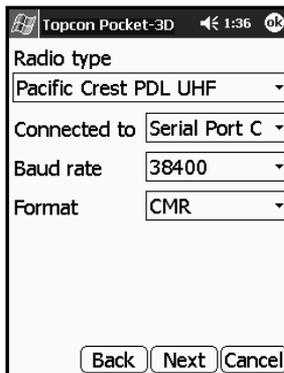

Figure 2-3. Radio Setup Dialog Box
5. Set the radio parameters, and press **Next** to continue (Figure 2-3):